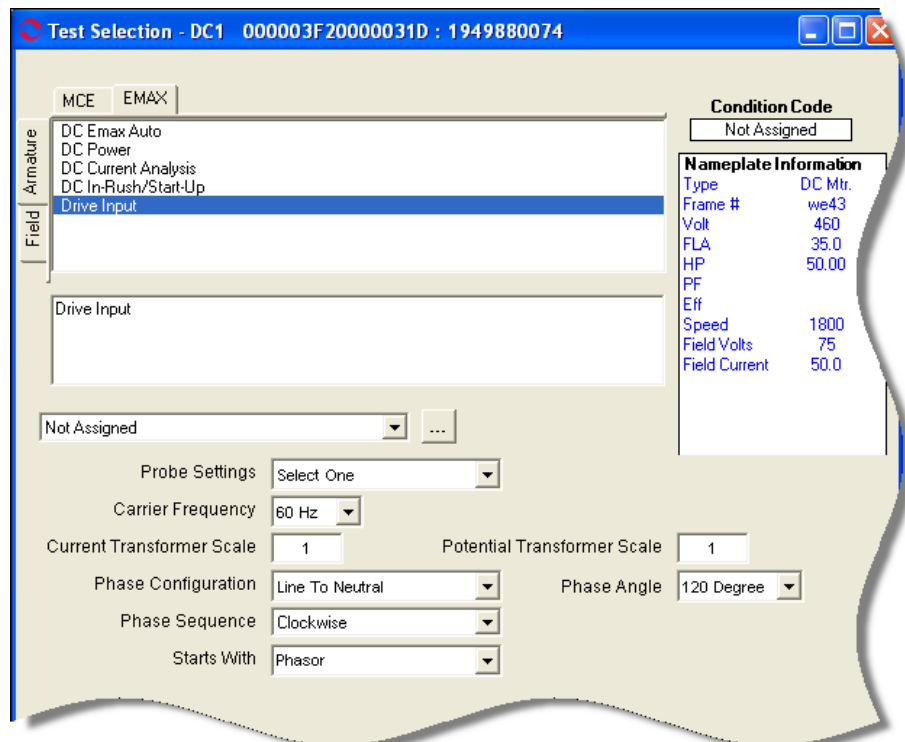

Figure 6-42: Drive Input Test Selection Window
4. Select the Test Selection icon  on the toolbar. The Test Selection window, shown in Figure 6-42 opens.